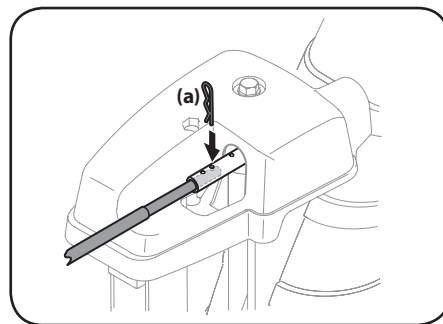

Figure 2-28
6. Push chute control rod toward the control panel until hole in rod lines up with middle hole in chute control input and insert cotter pin (a) removed in Step 1. See Figure 2-28.